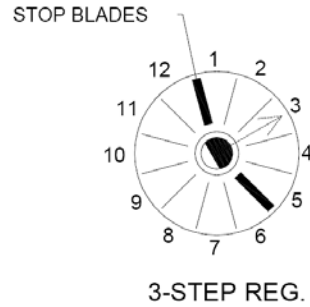

Figure 7: 3-Step regulator Switch Stops
- a. Carefully place one of the Switch Stops in the slot between 1 and 12 as marked on the switch shown in Figure 7. Insert the other Switch Stop in between 5 and 6